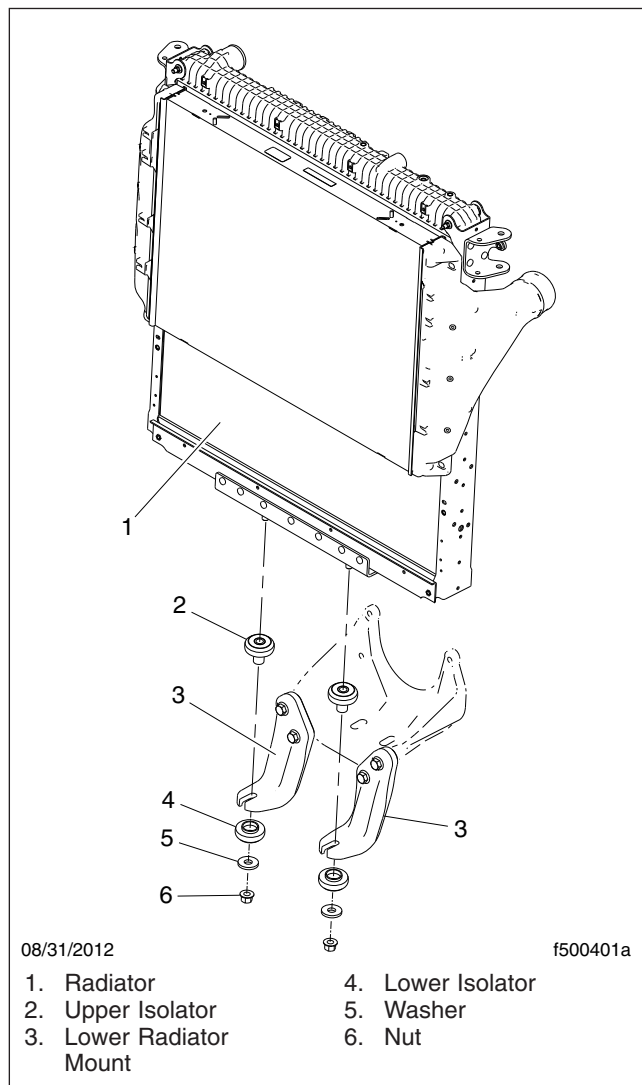

Fig. 15, Radiator Installation
30. Install the lower radiator isolators on the mounting brackets. See **Fig. 15**.
31. Using an appropriate lifting device, position the new radiator assembly in the vehicle. Install the mounting nuts, but do not tighten them at this time. See **Fig. 15**.